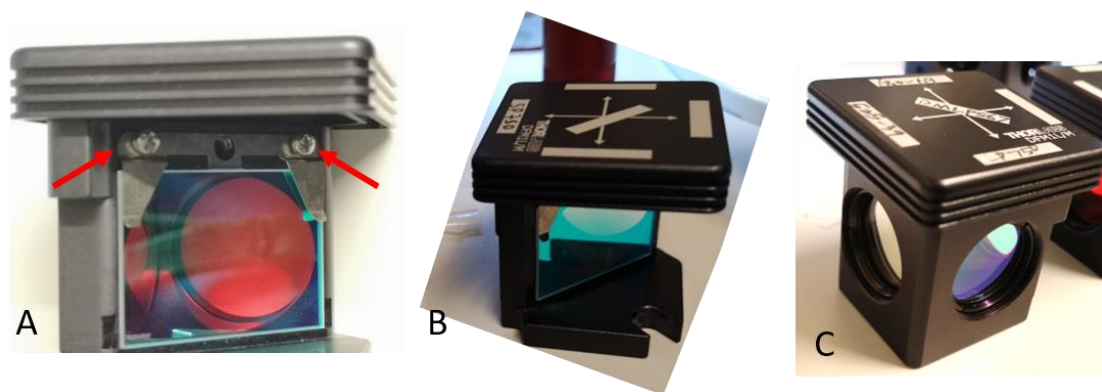

Figure 12: Kinematic cage mounting steps for assembling the dichroic mirror inside the removeable cube top (A-B) and filters on the side ports (C)
Step40. Untighten the top two screws with a Phillips #00 screwdriver to loosen the leaf spring and slide the dichroic mirror (item 38) under the clamps (see arrows in Fig.12-A). Place the coated side of the mirror facing the direction from where the laser beam comes from. Tighten the screws enough to hold without breaking the mirror (see Fig.12-B).
Step41. Mount back the other half of the cage and prepare the filters to assemble on the next steps (see Fig.12-C)